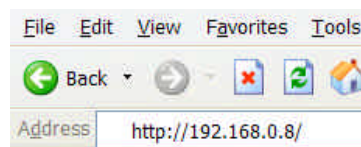

Figure 4.1 Internet Browser Address box
4. Type the IP address of the Wireless Access Point adapter into the Address box, as shown in Figure 4.1. Refer to *Finding the IP address of the Wireless Access Point Adapter* on page 14 for information about how to find the IP address of the Wireless Access Point adapter.